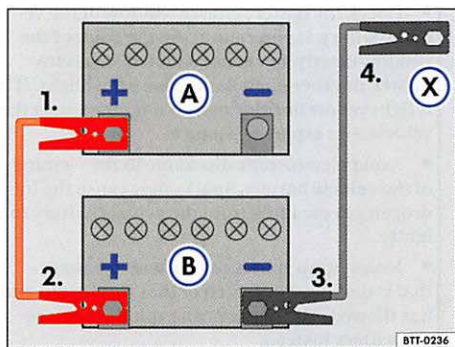

Fig. 201 Diagram for attaching the jumper cables: Dead battery (A) and booster battery (B).
- Attach one end of the **red** jumper cable to the **positive terminal** $\Rightarrow$ fig. 201 (+) of the dead battery: Battery (A) $\Rightarrow$.
- Attach the other end of the **red** jumper cable to the **positive terminal** (+) of the good battery (booster battery): Battery (B).
- Attach one end of the **black** jumper cable to the **negative terminal** (-) of the booster battery: Battery (B) $\Rightarrow$ fig. 201.
- Attach the other end of the **black** jumper cable (X) to a **bare metal part of the vehicle with the dead battery**. This part should be connected directly to the engine block. You may also attach the cable to the engine block itself. Attach the clamp to a point that is as far away as possible from the dead battery: Battery (A) $\Rightarrow$.